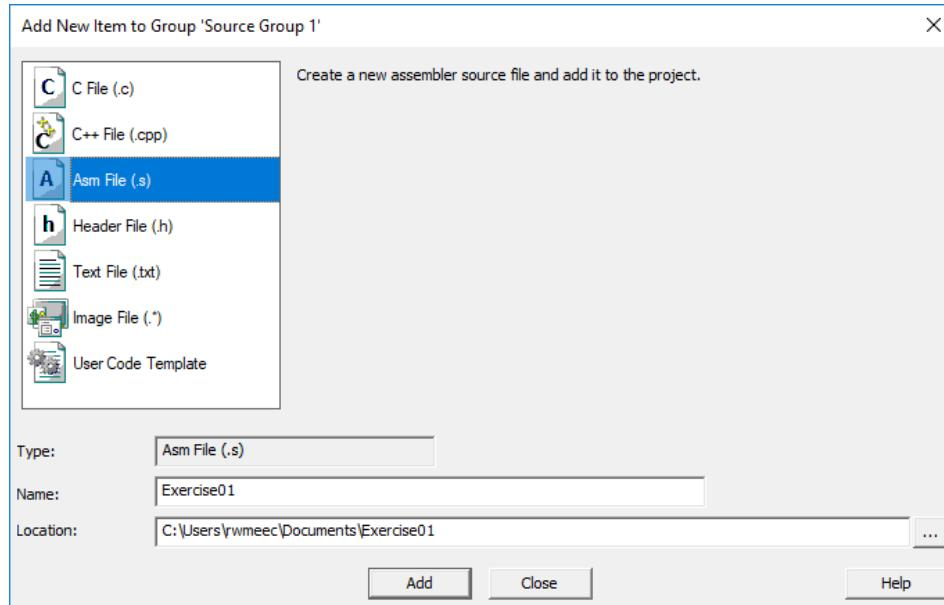

Figure 8. Adding New Assembly Source File to Project
- Right-click on Source Group 1, and in the resulting drop-down menu select Add New Item to Group 'Source Group 1' ... to open the Add New Item to Group 'Source Group 1' window, as shown in Figure 8.
- Note: Figure 8 also indicates the most commonly used toolbar icons for simulation with µVision IDE.